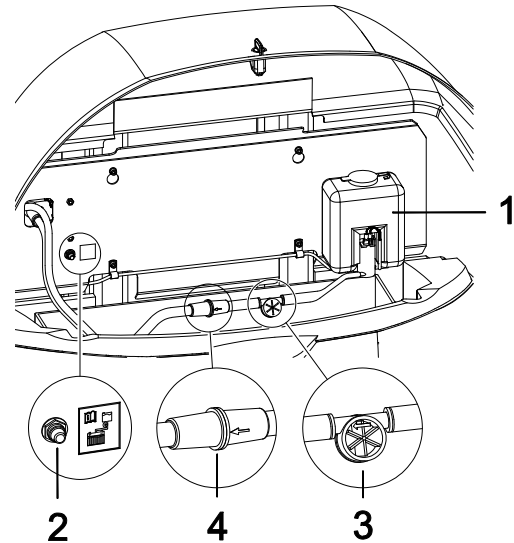

Figure 6-5. Adding Water to Batteries
- Disconnect and clean the **filter (4)** (See Figure 6-5.) by reversing the water flow from the normal direction.